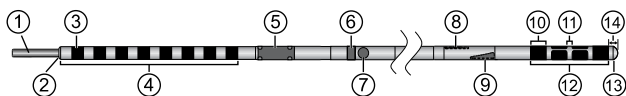

Figure 1. Model B33005 marked directional lead.
- The Model B33005 lead has narrow (0.5 mm) electrode spacing, or the spacing between each level of electrodes (Figure 1).